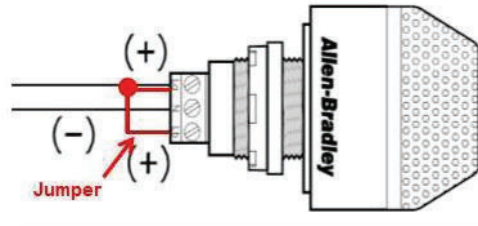

Figure 10-13 RSL jumper wiring
- C. wired for solid light operation, by placing a jumper between the “La” and “Lb” terminals on the light per Figure 10-13.